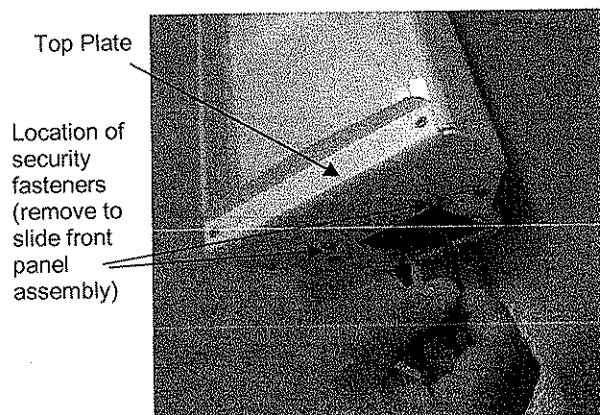

Figure 7: Top of the Schedule Assembly
3. Remove the two security fasteners from the top (see Figure 7) and remove the top plate.